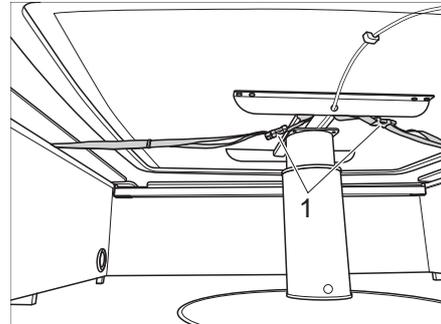

Fig. 60 Securing the lift-off table with belts
- ▷ The lift-off table is not secured to the floor. Before starting the journey, lower the lift-off table to the lower stop and fasten with the belts (Fig. 60,1) under the benches.